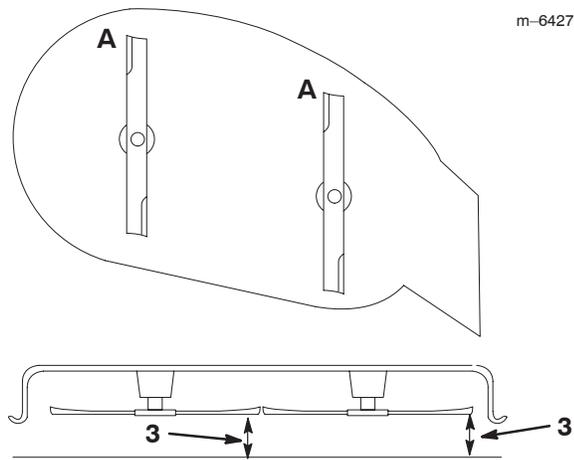

Figure 26
1. Rotate the blades until the ends face forward and backward (Fig. 26). Measure from a level surface to the cutting edge, position A, of the blades (Fig. 26). Note this dimension.